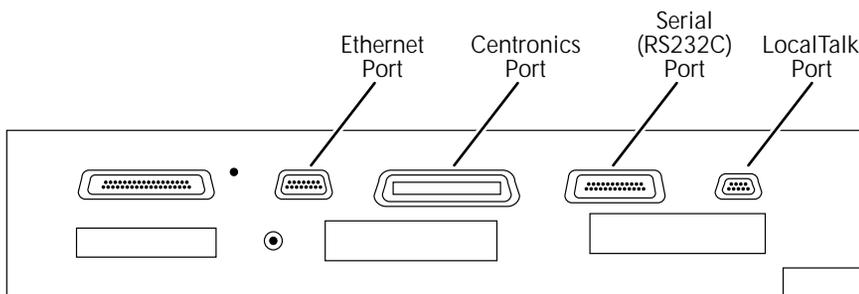

Figure 5.1. The AccuSet I/O panel for systems with internal RIPs.
**NOTE:** As you refer to your RIP hardware *User Guide*, use Figure 5.1, below, to locate the different communication ports.